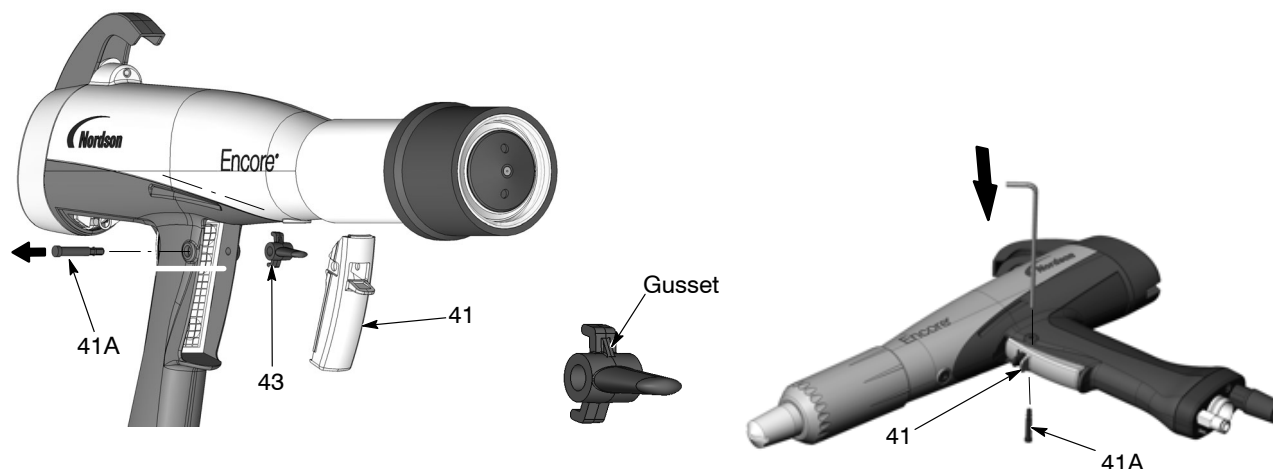

Figure 6-8 Removing the Axle and Trigger from the Handle
3. See Figure 6-8. Place the spray gun on a solid surface so the small diameter end of the trigger axle (41A) is oriented upward.
5. Remove the spray trigger (41), actuator (42, not shown), and purge trigger (43) from the handle.